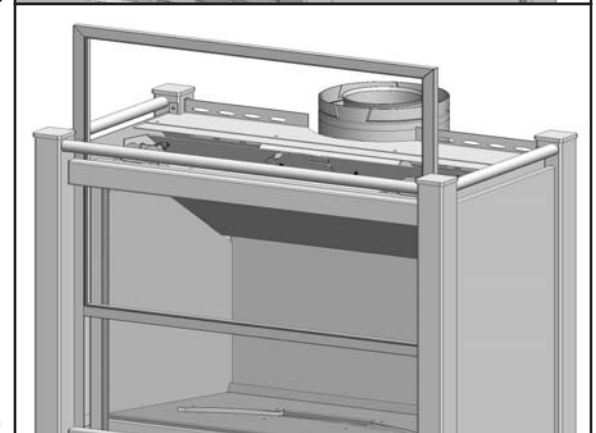

Fig.10
4. Slide the safety screen up and out from appliance and set aside.(Fig.10)